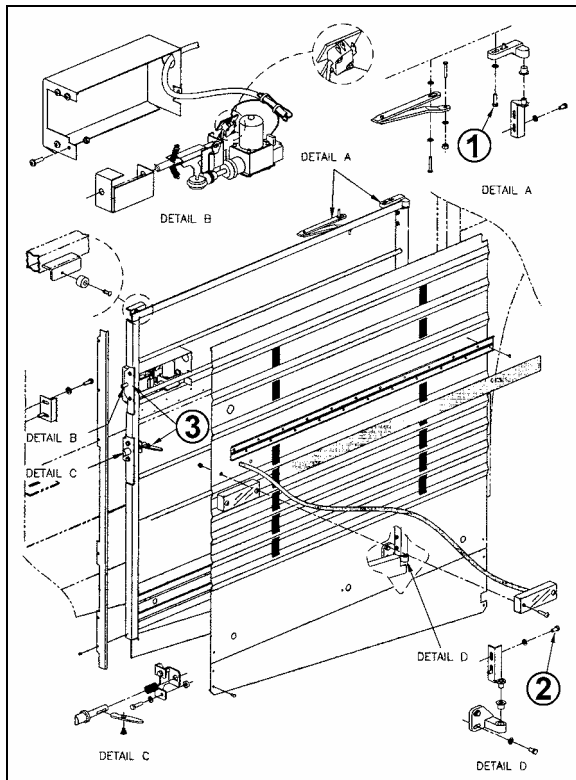

FIGURE 33: ENGINE COMPARTMENT R.H. SIDE DOOR 18635
1. Loosen the bolts, (1, Fig. 33) holding the hinge to the vehicle structure to shift the door "IN or OUT" and "UP or DOWN".
2. Loosening the bolts (2, Fig. 33) allows the door to be shifted "LEFT or RIGHT" and "UP or DOWN".
To adjust the latch mechanism (3, Fig. 33) and the striker pin: